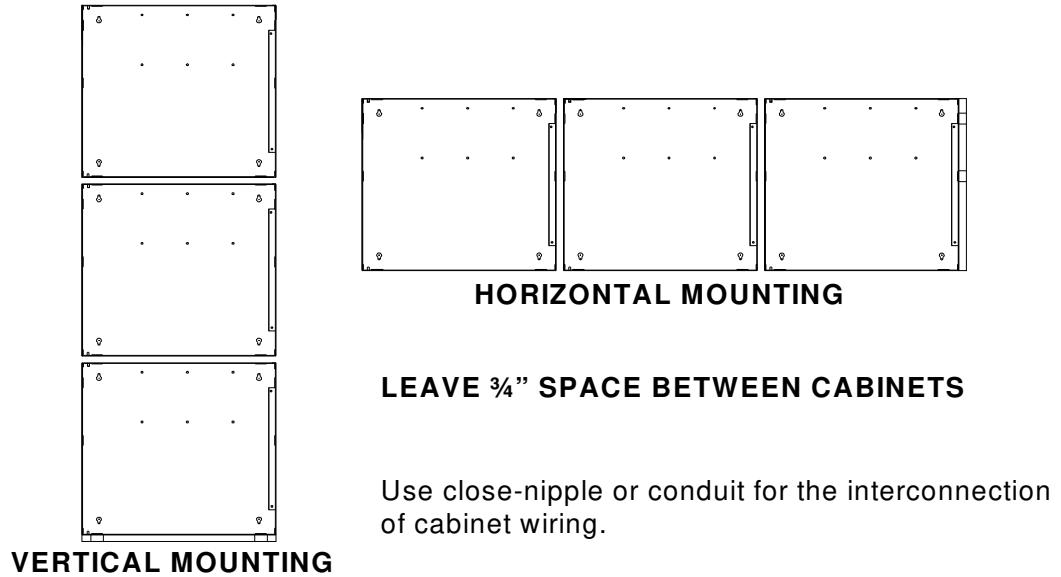
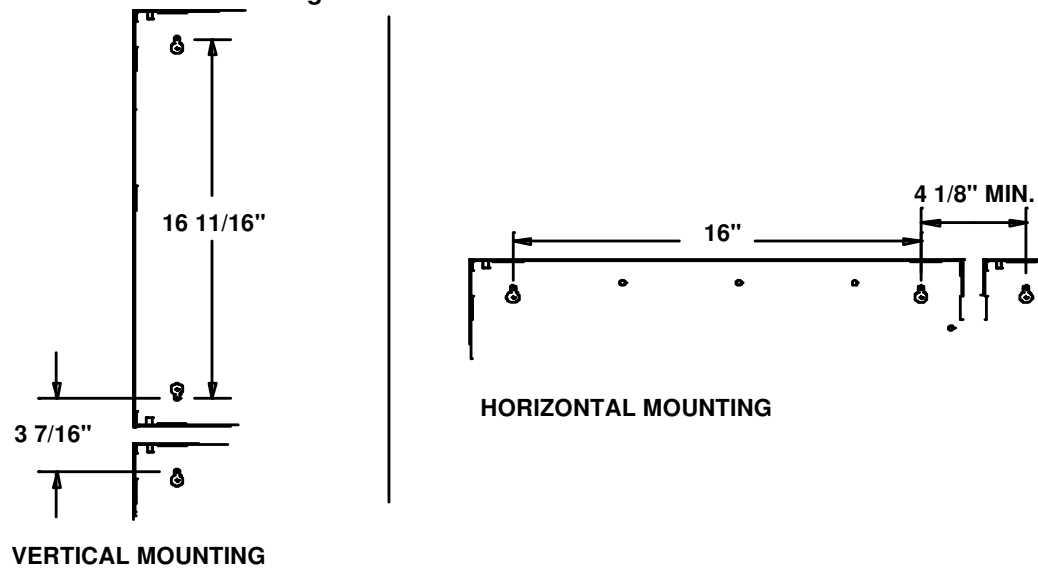

Figure 2.5.1 INCC-E Backbox Installation
Figure 2.5.2 INCC-E Backbox Installation
2. Remove the 1" L diameter knockouts from the adjacent boxes prior to mounting to permit wiring from box to box and to peripheral devices in the field. Refer to Figure 2.5.1 and Figure 2.5.2.